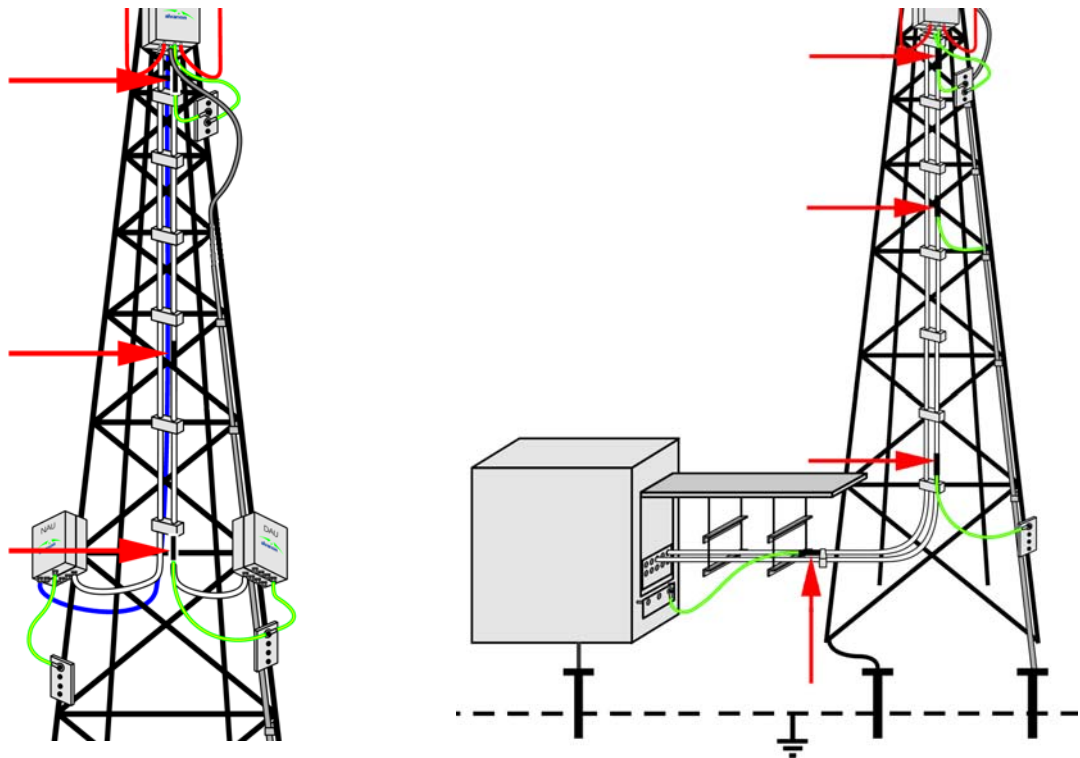

Figure 6: IF Cable Grounding Points: Macro Outdoor (Left) and Macro Indoor (Right)
- 4 Use the grounding kit to ground the cable at the top near the ODU. If the cable is longer than 60m (200 ft), ground the cable also at mid point and at another point before curving of the IF cable towards the base band unit/shelter (see Figure 6 for an illustration of the grounding points). The following are instructions for grounding the cable.